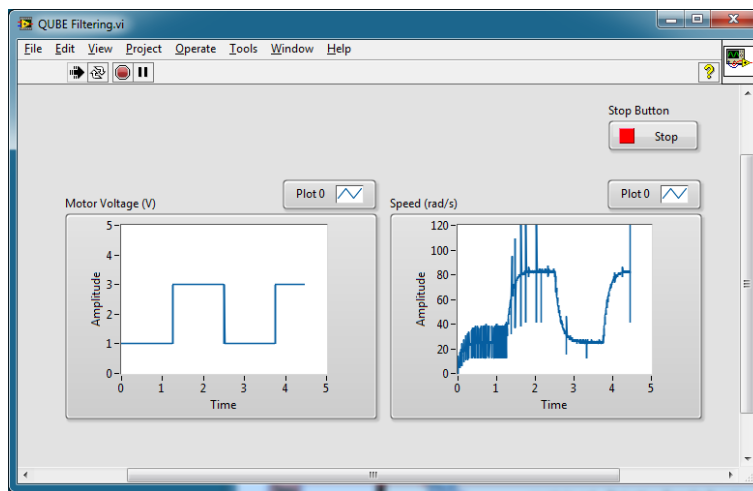

Figure 2.2: Measured servo speed using encoder
4. Run the VI. Examine the encoder speed response. Attach sample responses. They should look similar to Figure 2.2.